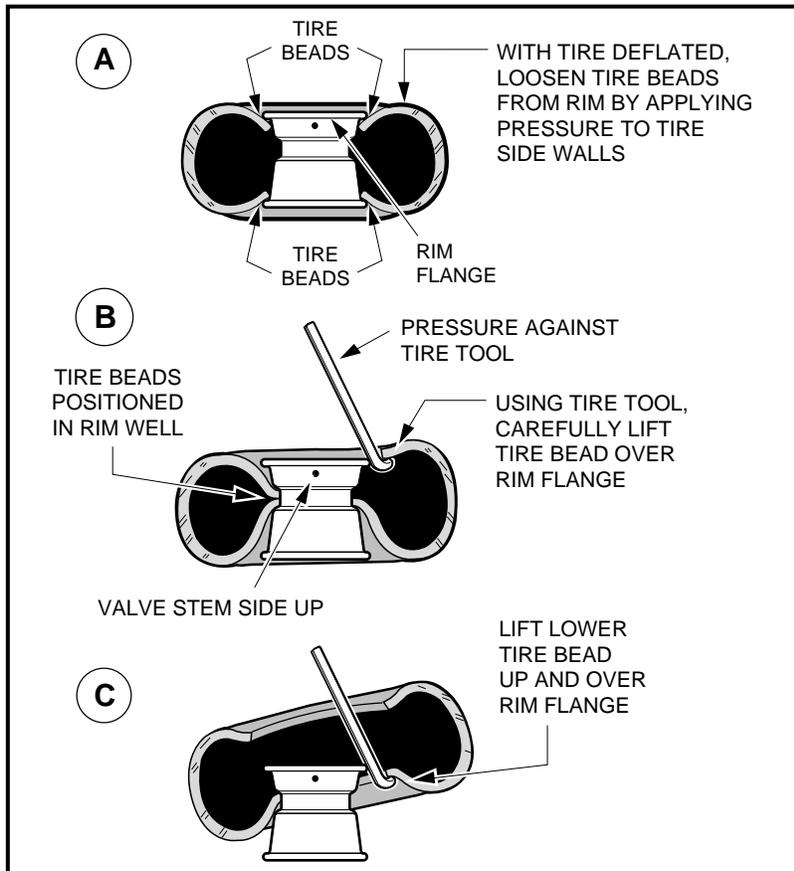

Figure 8-1 Removing Tire From The Rim
- 3.1. If a tire machine is not available, loosen both tire beads by applying pressure to the tire side walls and pushing the tire bead away from the rim flange and into the rim well (**Figure 8-1, Page 8-3**).
- 3.2. With the valve stem side of the wheel up, use a tire tool to carefully start the upper bead over the edge of the wheel rim (**Figure 8-1, Page 8-3**).
- 3.3. When top bead is free of the rim, pull the bead from the bottom side of the rim up into the upper part of the rim well. Insert the tire tool under the lower bead as shown (**Figure 8-1, Page 8-3**) and carefully pry the lower bead over the rim flange.